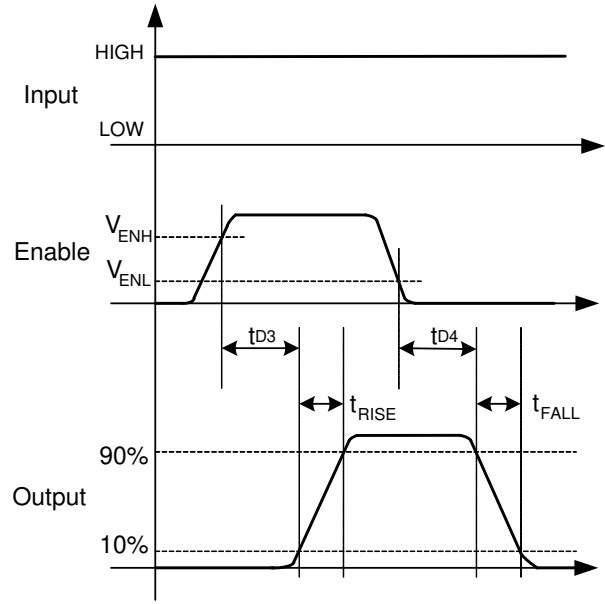
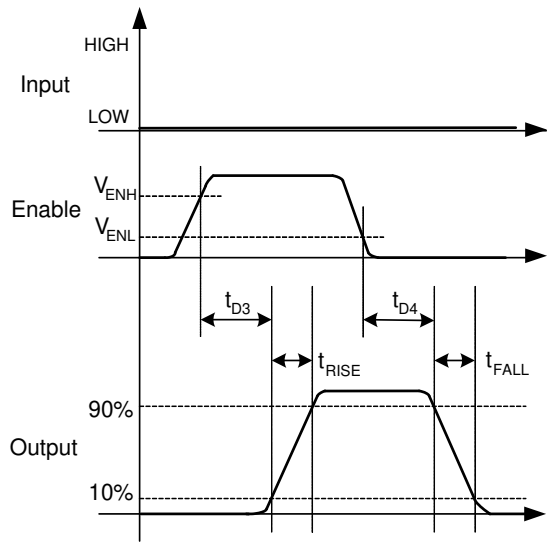

Figure 10. Non-Inverting (IN HIGH)
Figure 11. Inverting (IN LOW)
13. See Timing Diagrams of Figure 10 and Figure 11.